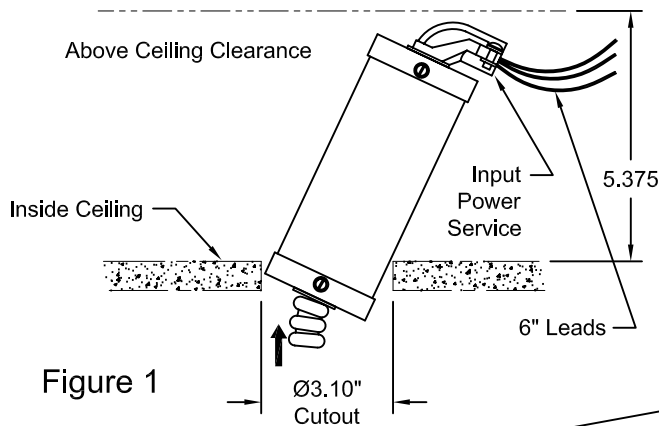
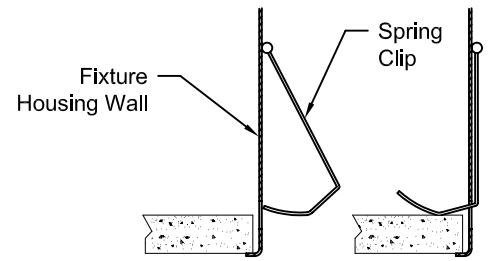
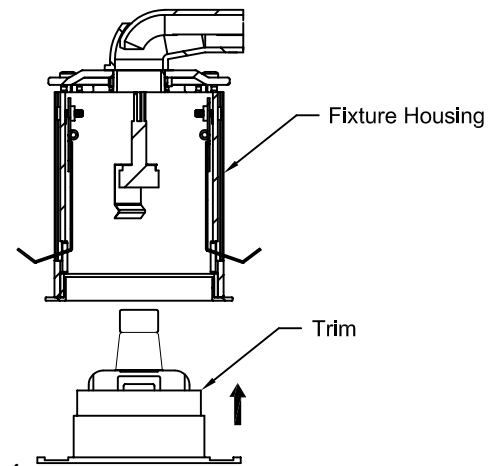
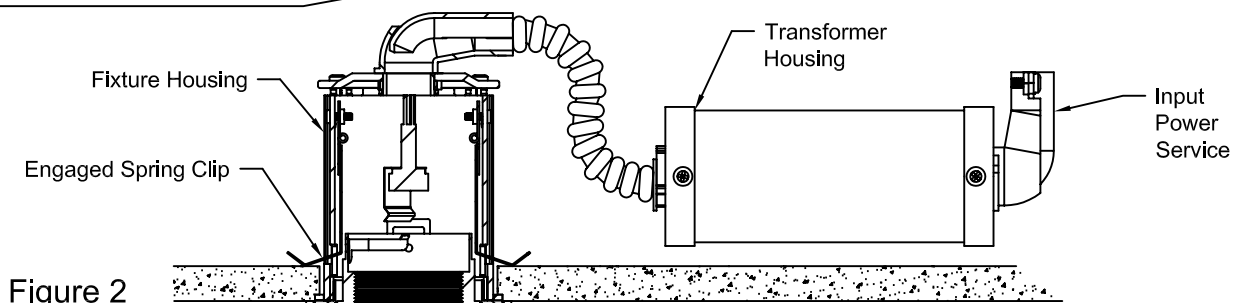

Figure 1
Figure 3
Figure 4
Figure 2
1. Check for Above Ceiling Clearance of 5.375. See Fig. 1.
2. Make Ø3.10" Cutout in Ceiling. See Fig. 1.
2. Connect electrical wires from Transformer Housing to Existing Electrical Service. See Fig. 1.
3. Insert Transformer Housing through Cutout in Ceiling. See Fig. 1.
4. Rotate Transformer Housing 90° and, with it resting on Inside of Ceiling, push to side to clear Cutout in Ceiling. See Fig. 1 & Fig. 2.
1. Place Fixture Housing into Ceiling Cutout being sure that the two (2) Spring Clips are Disengaged. See Fig. 2 & Fig. 3.
2. Holding Fixture Housing firmly in place, push Spring Clips outward to Engage. See Fig. 2 & Fig. 3.
3. Install Trim into Fixture Housing until it Seats against the Ceiling. See Fig. 2 & Fig. 4.